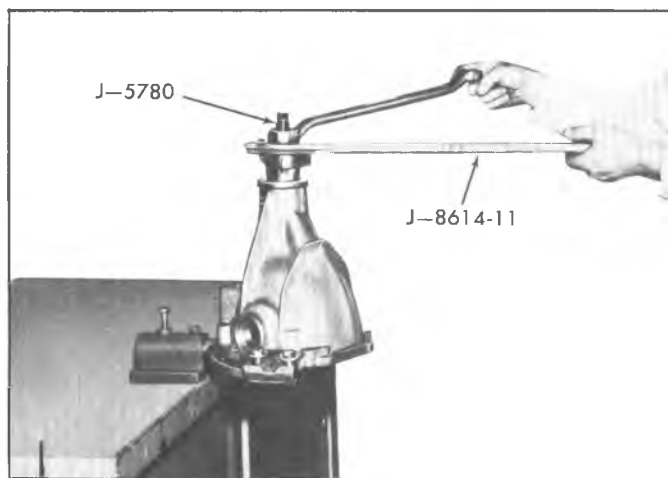

Fig 24C—Installing Companion Flange
6. Install companion flange using Holder J-8614-11 and Installer J-5780. See Figure 24C.